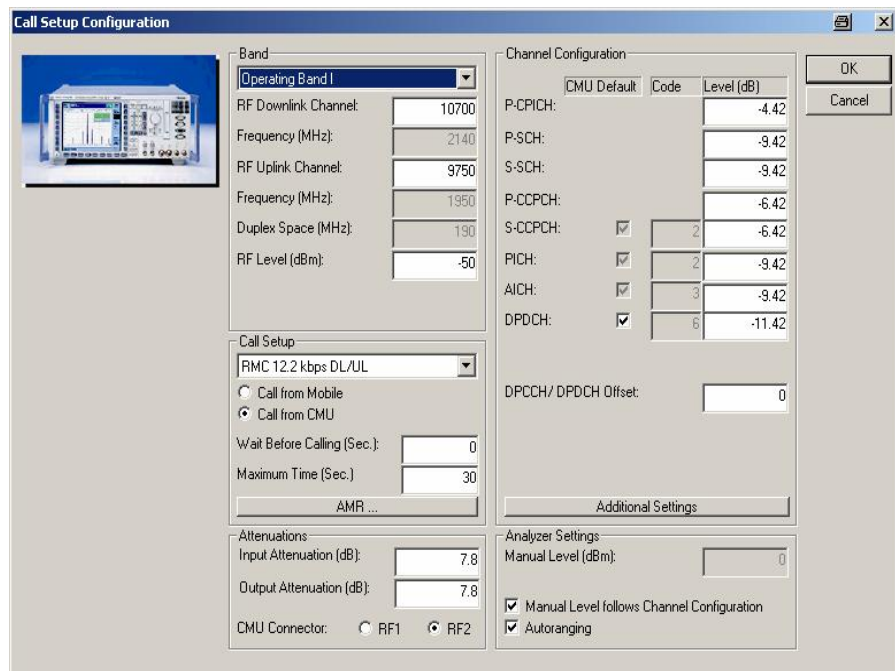

Fig. 6.5_3: Call setup configuration
- 5) Enter the path loss you measured between UE and CMU200 as *Input Attenuation* and *Output Attenuation* (lower left in Fig. 6.5_3))